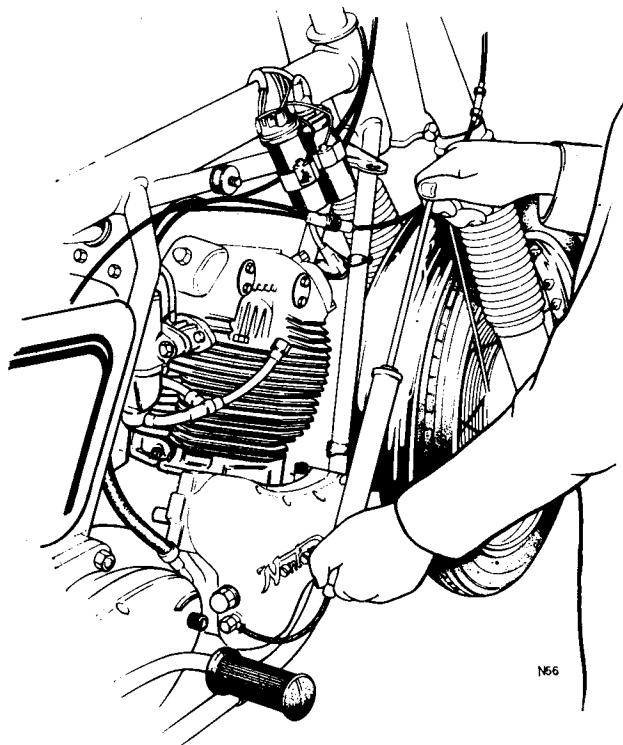

Fig. C41 Priming crankshaft with oil
Prior to fitting the bottom connection for the rocker feed pipe it is most desirable to prime the crankshaft with approximately a teacup full of oil. This is most easily achieved by the use of an oil syringe, short length of flexible pipe, and a spare rocker feed pipe banjo which can be connected at the rear of the timing case. The priming operation is shown in Fig. C41.
- 7 Turn the engine crankshaft backwards to lower the pistons, then support the pistons as in Fig. C41 on two suitable bars which must not overlap the timing case.
- 10 Smear both piston bodies with clean engine oil. Fit piston ring clamps (also shown in Fig. C41) to keep the piston rings closed. Do not overtighten the ring clamps which would tend to prevent the ring clamps sliding as the cylinder is offered.